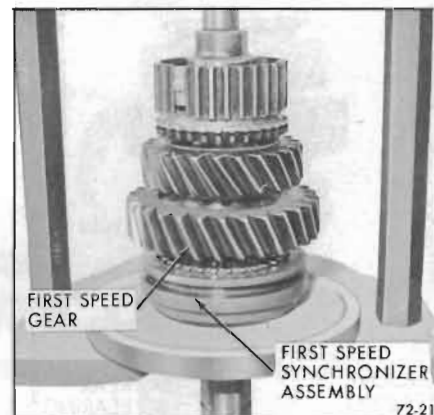

Figure 72-21—Installing First Speed Gear
2. Install first speed gear and synchronizer on mainshaft. See Figure 72-21. Using ram press and Press Plate J-8609, press first speed synchronizer assembly onto mainshaft. Install retaining snap ring.